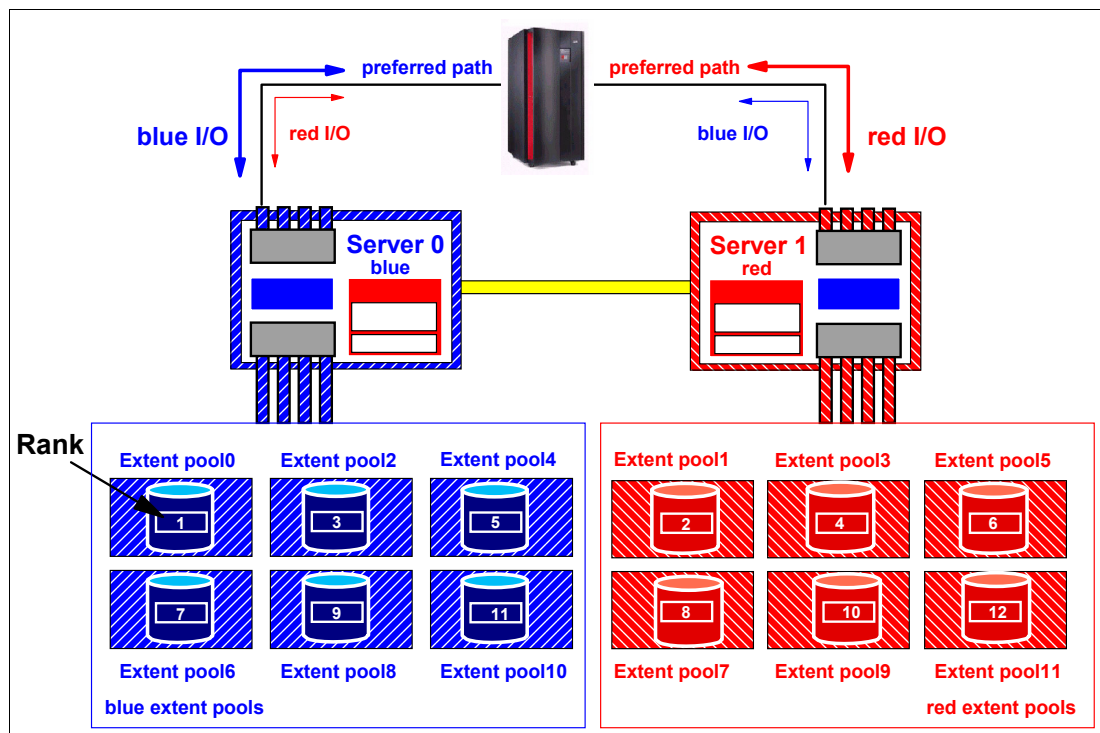

Figure 11-12 Extent pool affinity to processor complex with one extent pool for each rank
- ▶ In the example in Figure 11-12 each rank is in its own extent pool. The evenly numbered extent pools have an affinity to the left server, server 0. The odd number extent pools have an affinity to the right server, server 1. When a rank is subdivided into extents it gets assigned to its own extent pool.
Figure 11-12 indicates that there is an affinity between FICON ports and certain extent pools and, therefore, an affinity between FICON ports and certain volumes within these extent pools.